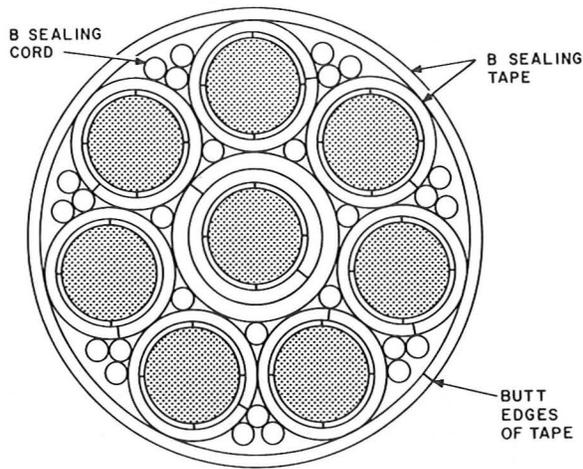

Fig. 9—Eight-Stub Cable Arrangement
5.09 Place one full wrap of 1-1/2 inch B Sealing Tape around each of the connector stubs so that 1/8 inch of PVC sheath is exposed (Fig. 8). Do not stretch or overlap the tape. Butt the ends together. Remove the paper tape markers. The center stub of an 8-stub grouping should have two layers of B Sealing Tape (Fig. 9). Use the waxed paper with the sealing tape to protect these wrappings until they are grouped together.
6.01 Group the eight connector stubs so that the stub with two layers of B Sealing Tape is in the center of the group. Use 1-1/2 inch lengths of B Sealing Cord to fill the interstices as shown in Fig. 9 and 10.
of the sealing tape (Fig. 9 and 11). Keep the B Sealing Tape and cord as clean as possible and do not stretch them. Do not handle tape or cord with damp or oily hands.